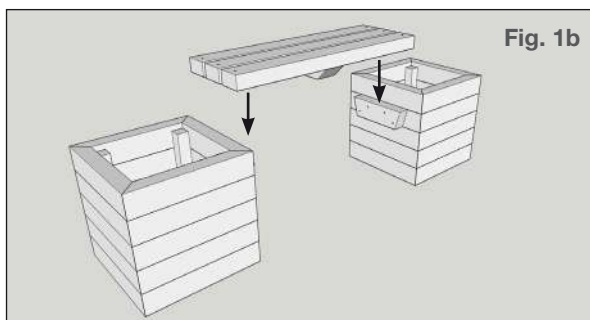
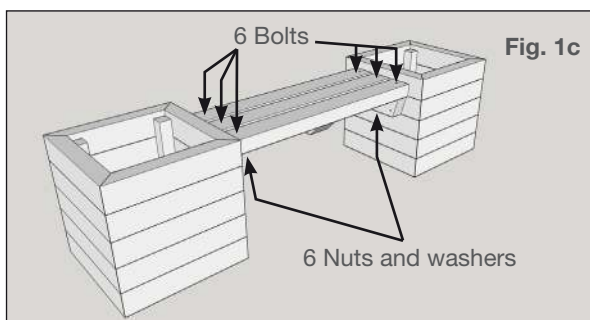

Fig. 1b
Fig. 1c
2. Lower the seat into position (Fig. 1b) and tap the six bolts provided through the pre-drilled holes with a soft mallet. Place the six washers and nuts onto the bolts and tighten using a wrench. (Fig. 1c)